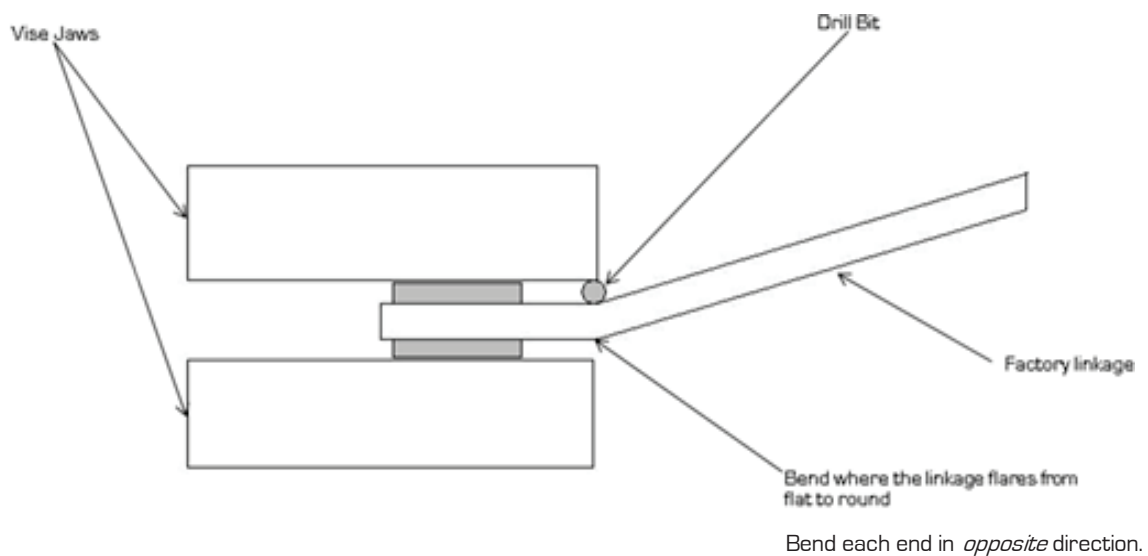
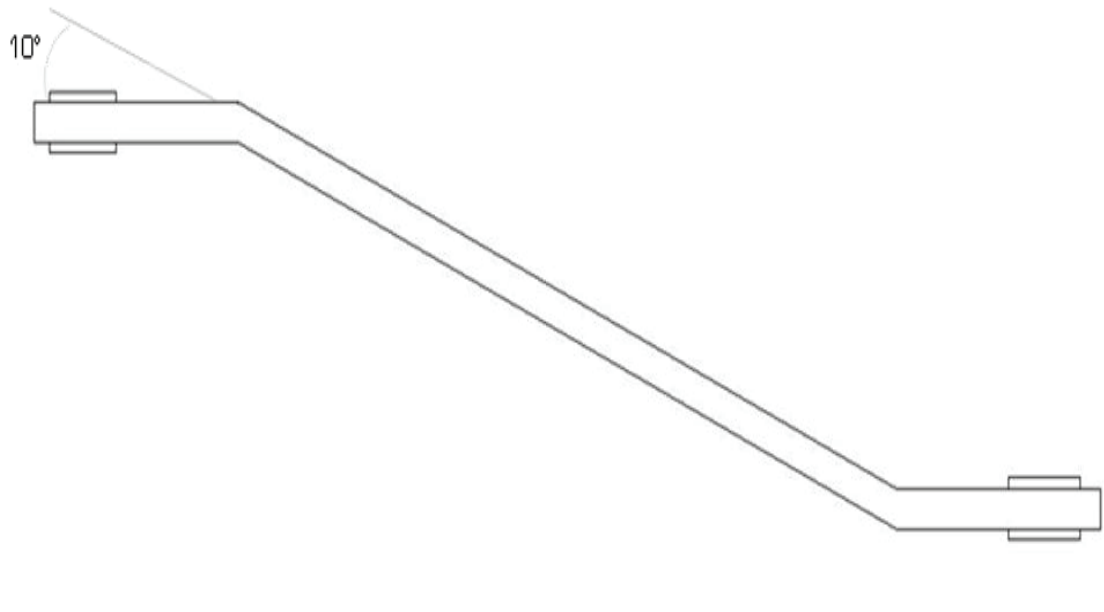

Figure 6 - Bending the Linkage Ends Properly
Figure 7 - Modified Wiper Linkage
9. Using a bench vise, bend the factory wiper linkage slightly (about 10 degrees) to accommodate for the difference in the new pitman arm position. An appropriately sized drill bit can be placed in the vise with the linkage end to help protect the bushings in the linkage and ensure proper bend location (Figure 6). The final linkage shape is shown in Figure 7 on the next page.